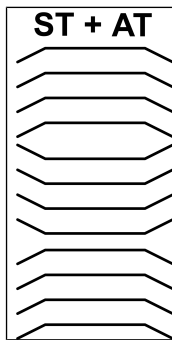

Fig.16: Location of disk springs
1. Place the head plate (4) on the intermediate plate (3) according to the felt-tip pen marking.
2. Put on the disk springs (5) (for location, see Fig. 16).
3. Put on the cap nuts (6) and tighten them (tightening torque: 7 Nm).